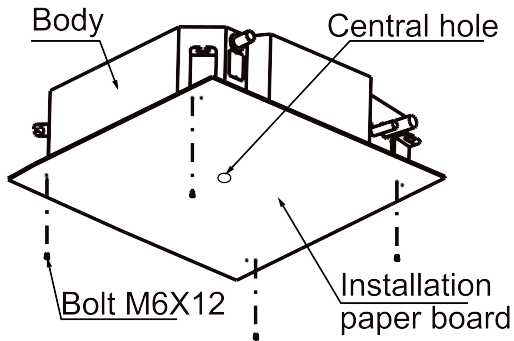

fig. 12.8
- b. After installing the body, please fasten the installation paper board onto the air conditioner with bolts (M6×12) to determine in advance the sizes and positions of the hole opening on ceiling. (refer to fig.12.8)